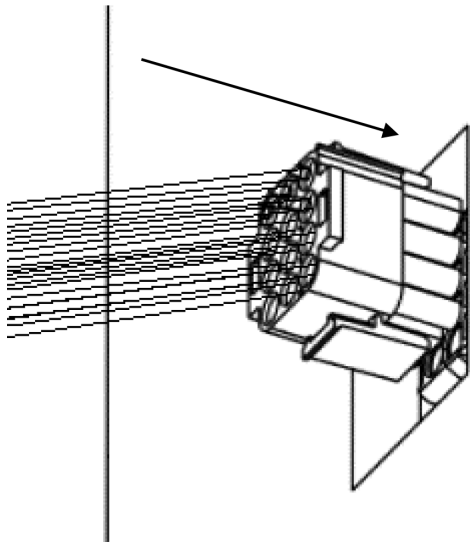

FIGURE 17 - ATTACH ECONOMIZER HARNESS
3. Plug in the wire harness provided with the economizer kit (see Figure 17).